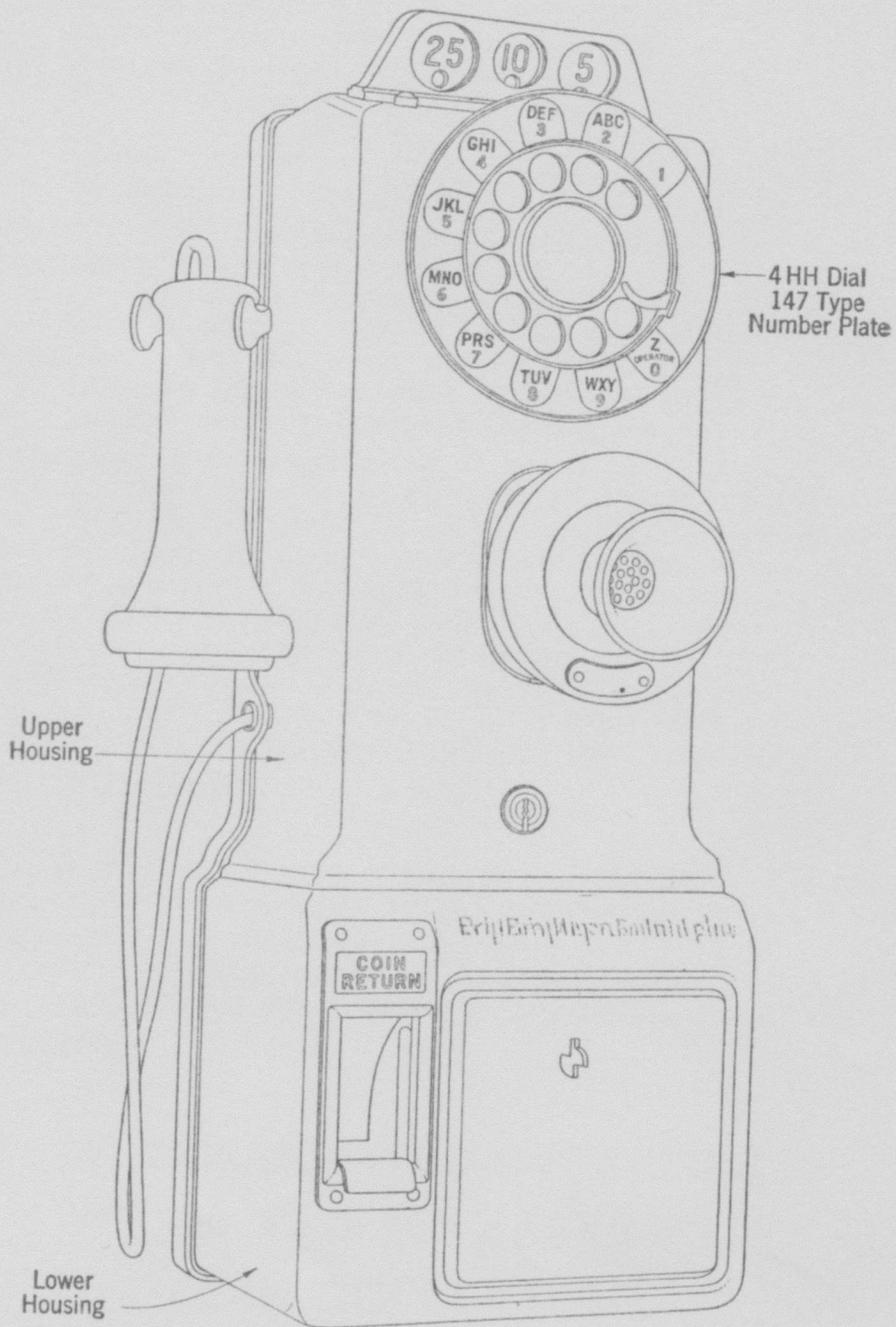

Fig. 1.
2.03 In the case of prepayment service a coin hopper arranged to hold the coins suspended on a coin trap and a coin relay arranged to direct the suspended coins either into the coin receptacle or into the coin return (under the control of the dial central office equipment or the operator) are installed on top of the lower housing. See Figs. 1 to 4 for illustrations of the various apparatus parts of the coin collector.